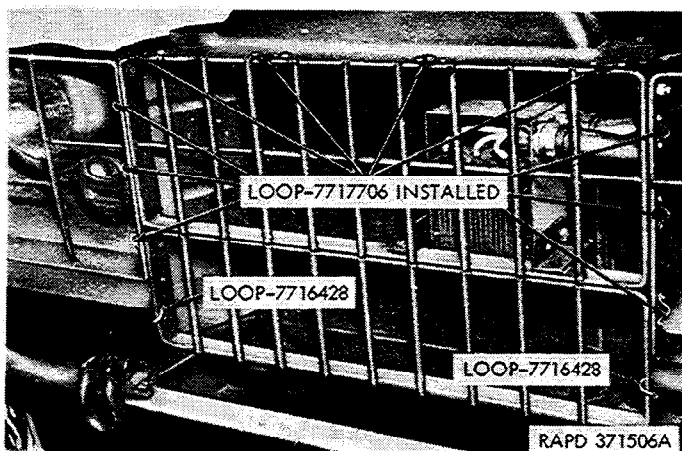

Figure 3-11. Radiator cover loops, installed.
a. Position radiator cover (B) as a template against the front of radiator grille and mark the location of the ten brass slotted grommets of the radiator cover on the radiator grille.
b. Remove the radiator cover and using a flat loop (BB) as a template, position the loop as illustrated in figure 3-11 and mark the loop holes on the radiator grille for each of the upper ten grommet positions.